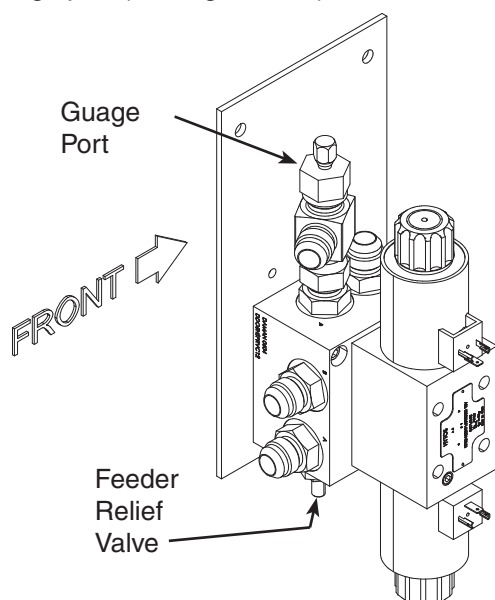

Figure 5-27. Feeder Manifold
2. Remove the 1/4" JIC cap from Feeder manifold gauge port (see Figure 5-27).
8. Adjust the Feeder Pressure Relief Valve (see Figure 5-27) following "RELIEF VALVE ADJUSTMENT" on page 5-19